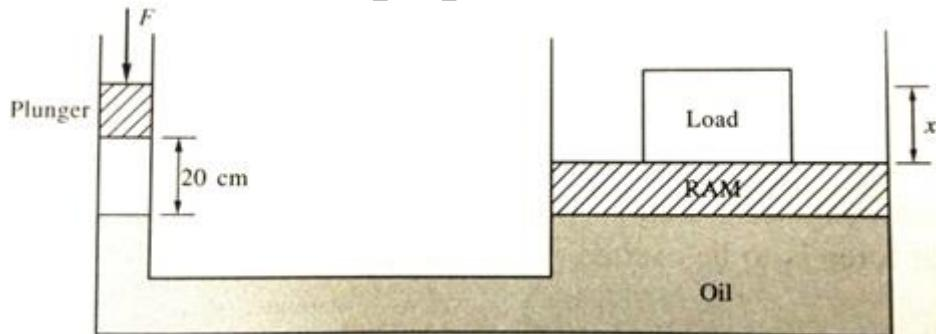

Fig:Q1(c)
c) A force of 500 N applied on a plunger of diameter 5 cm of a hydraulic press moves the piston through a distance of 20 cm as shown Fig. Q1(c). What is the maximum weight of the load that can be placed on the ram and what will be the displacement of the ram, if the diameter of the ram is 40 cm. **07**